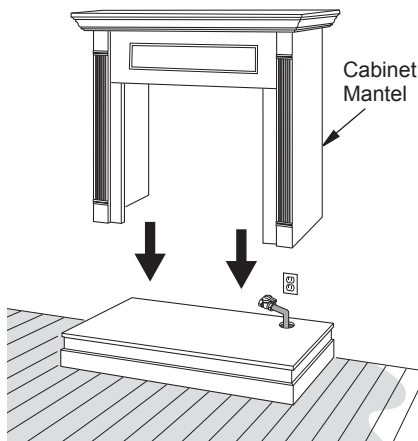

Figure 21 - Installing Cabinet Mantel
5. Center cabinet mantel on hearth base (see Figure 21). Make sure mantel is flush against wall and centered left to right on base.